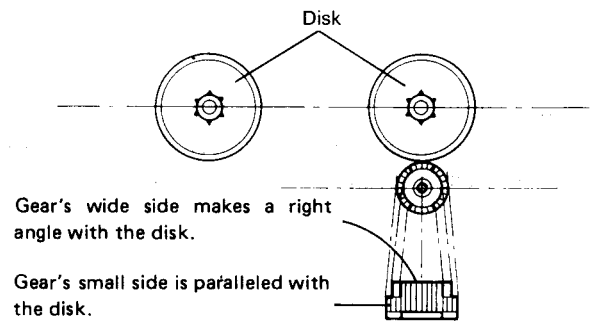

Fig. 6-11
- a) When setting the cam gear, make sure of its positioning so that the gear's wide side makes a right angle with the disk, while its small side is in parallel with the disk as shown in Fig. 6-11.